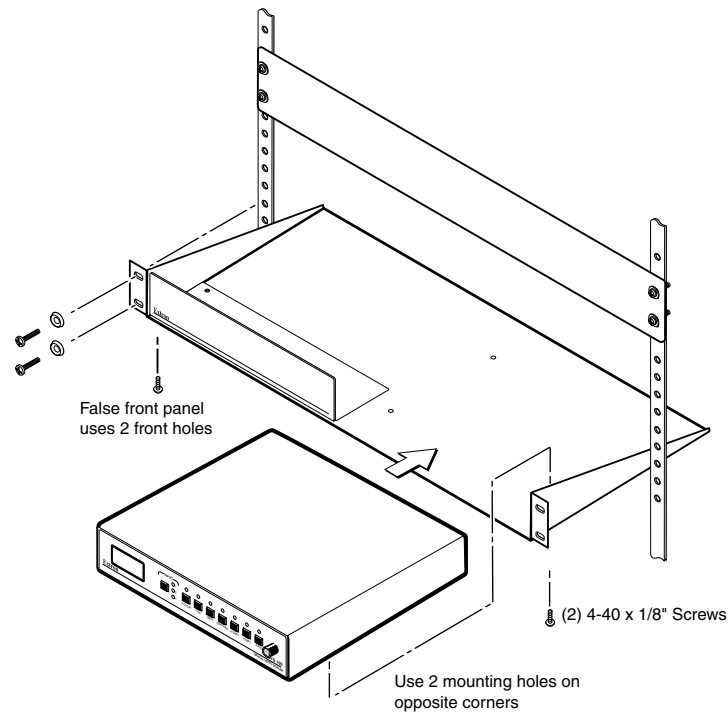

Figure 3 — Mounting the scaler
2. Mount the scaler on the rack shelf as shown in figure 3. Use two 4-40 x 1/8" screws in opposite (diagonal) corners to secure the case to the shelf.